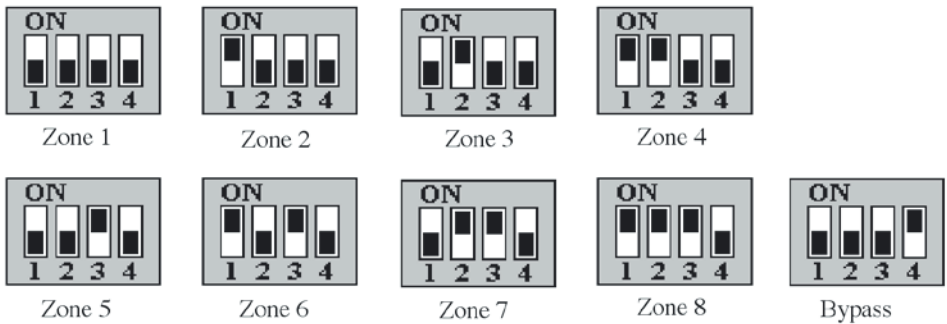

Figure 3. Damper address setting
- 2) **Allocate and set unique addresses to all zones with consideration of spill privileges for the zones.** Please refer to the Zone Address section for details. Please note that bypass damper has a special address as shown in Figure 3.
Each damper should have a unique address in the serial control bus to be identified by the touchpad. This address is configured by a standard 4-way DIP switch inside the damper controller to provide 8 unique normal zone damper addresses and a special address for the bypass damper. All damper addresses can be set as shown in Figure 3.